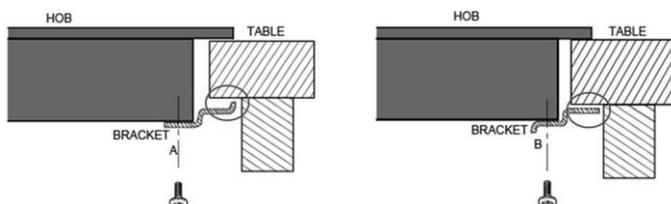

Fig. 6
6. Make sure that following the installation the brackets do not touch internal surfaces of the work top table board (see Fig. 6).